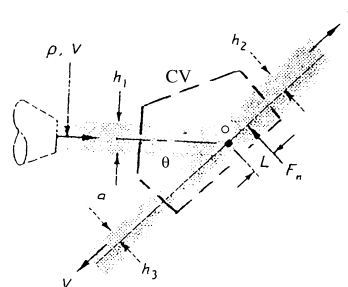

Fig. P3.122
**3.122** Extend Prob. 3.46 to the problem of computing the center of pressure  $L$  of the normal face  $F_n$ , as in Fig. P3.122. (At the center of pressure, no moments are required to hold the plate at rest.) Neglect friction. Express your result in terms of the sheet thickness  $h_1$  and the angle  $\theta$  between the plate and the oncoming jet 1.